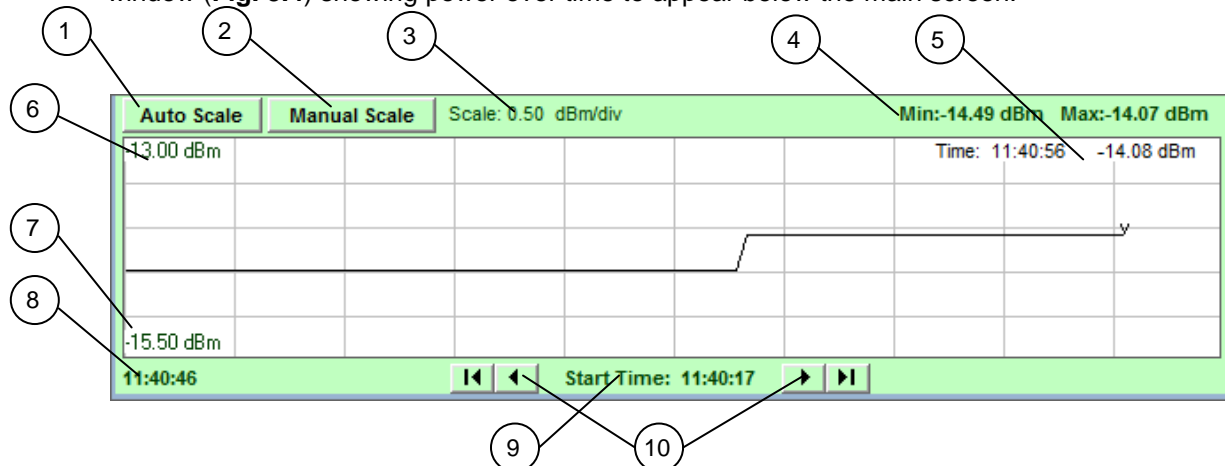

Figure 3.4: Real-Time graph
Checking the 'Display Graph' box in the lower left corner of the main screen will cause a graph window (Fig. 3.4) showing power over time to appear below the main screen.
3.4.1 Real-Time graph indicators and functions (Fig. 3.4)